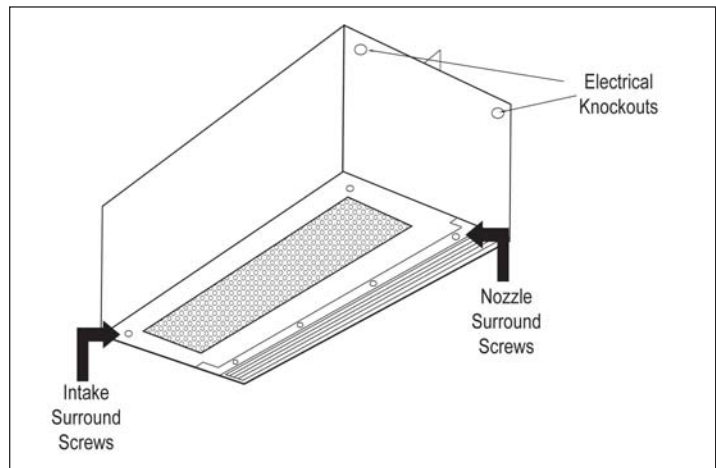

FIGURE 2
- To remove the blower assembly, remove the nozzle surround held by phillips head screws from the bottom of the enclosure and set aside. **See FIGURE 2**
- Open the intake screen, secured by phillips head screws, on the bottom of the enclosure. **See FIGURE 2**
- B. The electrical junction box is located inside the enclosure on the right hand side of the blower assembly. The unit enclosure is provided with two knockouts on each side, allowing for left or right hand power connections. Remove the required knockout (closest to discharge nozzle) and attach necessary electrical hardware. **See FIGURE 2**
- C. If the intake screen is on the unit, open it by removing the phillips head screws on the bottom of the enclosure. Remove it by grasping both sides and pressing in on the spring loaded hinge pins and set aside. **See FIGURES 2 & 3**
- A. Disconnect and lockout power to the unit. If necessary remove the blower assembly by removing the nozzle surround, held by phillips head screws from the bottom of the enclosure. Open the intake screen, secured by phillips head screws, on the bottom of the enclosure. **See FIGURE 2**
2. To remove the blower assembly, remove the nozzle surround held by phillips head screws from the bottom of the enclosure and set aside. **See FIGURE 2**
3. Open the intake screen, secured by phillips head screws, on the bottom of the enclosure. **See FIGURE 2**
1. Remove the blower assembly, remove the nozzle surround held by phillips head screws from the bottom of the enclosure and set aside. **See FIGURE 2**
2. Open the intake screen, secured by phillips head screws, on the bottom of the enclosure. **See FIGURE 2**